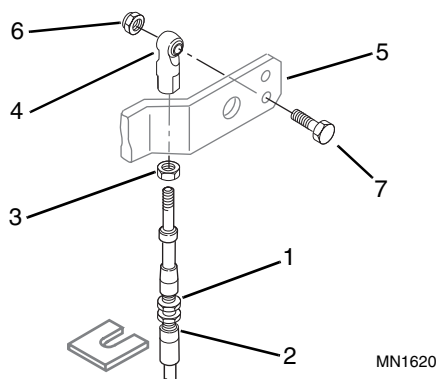
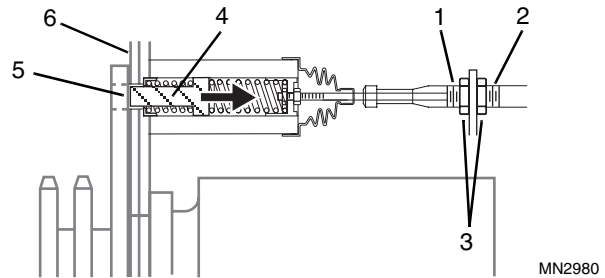
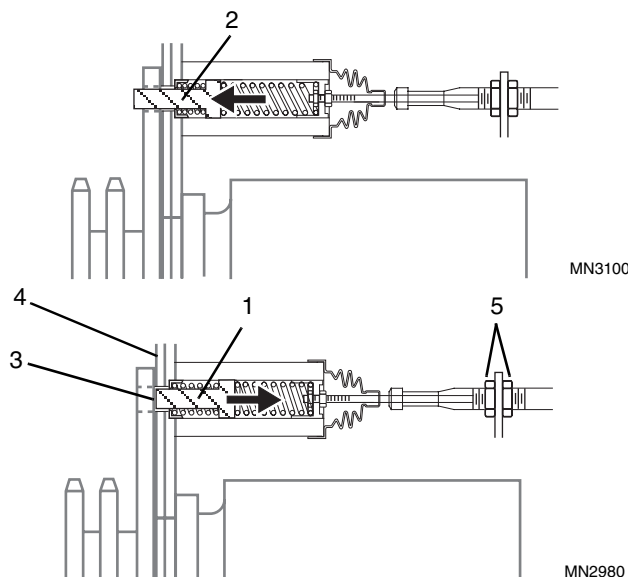

Figure 9-84 Park Lock Cable Operator Protective Structure Mount
Figure 9-85 Park Lock Cable Chassis Mount
Figure 9-86 Park Lock Cable Chassis Mount
23. Inspect both park lock cables where they mount to the rear of the Operator's Protective Structure. An equal number of threads should be visible on each side of the bulkhead nuts (Fig. 9-84, 1 & 2) on each cable. If not, readjust as required until they are equal.
24. Inspect both park lock cables where they mount to the chassis. An equal number of threads should be visible on each side of the bulkhead nuts (Fig. 9-85, 1 & 2) on each cable. If not, readjust the bulkhead nuts (3) as required until the visible threads are equal.
25. Lower the seat bar to retract both lock pins (Fig. 9-85, 4). The face of each lock pin (5) must be flush with the inner wall of each respective chain case (6) with the seat bar lowered. The lock pin position is adjusted by moving the ball joint (Fig. 9-84, 4) on the cable end at the seat restraint bar pivot arm (5).
26. At the rear of the seat bar, loosen the hex jam nut (Fig. 9-84, 3) against the ball joint (4).
27. Detach ball joint from seat restraint bar pivot arm (Fig. 9-84, 5) by removing the elastic locknut (6) and capscrew (7). Discard locknut.
28. Turn the ball joint (Fig. 9-84, 4) onto the cable to retract either pin (Fig. 9-86, 1) away from the drive sprocket. Turn the ball joint toward the end of the cable to extend either pin (2) closer to the drive sprocket.
29. With the seat bar still lowered, temporarily attach both ball joints (Fig. 9-84, 4) to the seat restraint bar pivot arm (5) and inspect each pin position again. Repeat Step 29 as required until the face of the each lock pin (Fig. 9-86, 3) is flush with the inner wall of the respective chain case (4).
30. If either pin cannot be adjusted using Steps 26 through 29, loosen the cable housing bulkhead nuts (Fig. 9-86, 5), reposition the cable slightly and tighten the bulkhead nuts (5). Repeat Steps 26 through 29.
31. Secure each cable's ball joint (Fig. 9-84, 4) to the seat restraint bar pivot arm (5) with cap screw (7) and a new elastic locknut (6). Tighten the hex jam nut (3) on each cable to the ball joint (4).